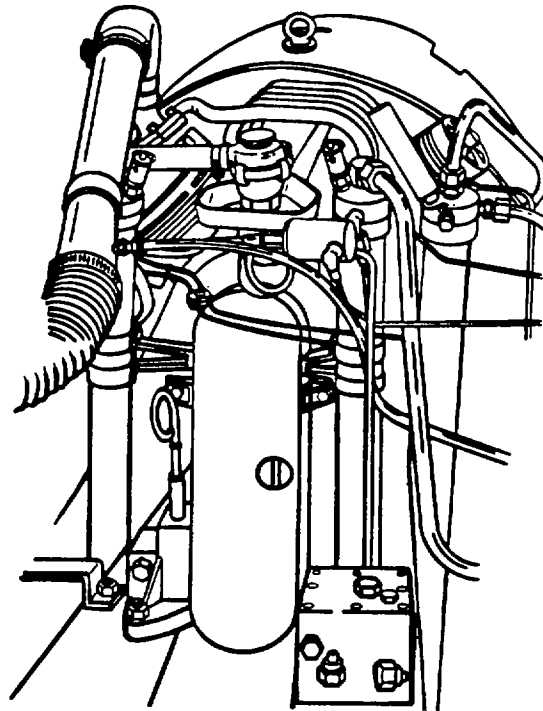

Figure 4-1. Compressor
- b. Compressor. The compressor (Fig. 4-1) is a four cylinder, four stage, air cooled unit which is V-belt driven. The cylinder arrangement is in the form of an "X." The first stage is on the upper half of the compressor and has the air filter attached. The second stage is on the lower half of the compressor directly opposite the first stage. The third stage is also on the lower half of the compressor and is next to the second stage. The fourth stage is on the upper half of the compressor directly opposite the third stage. The compressor will deliver 15 SCFM (standard cubic feet